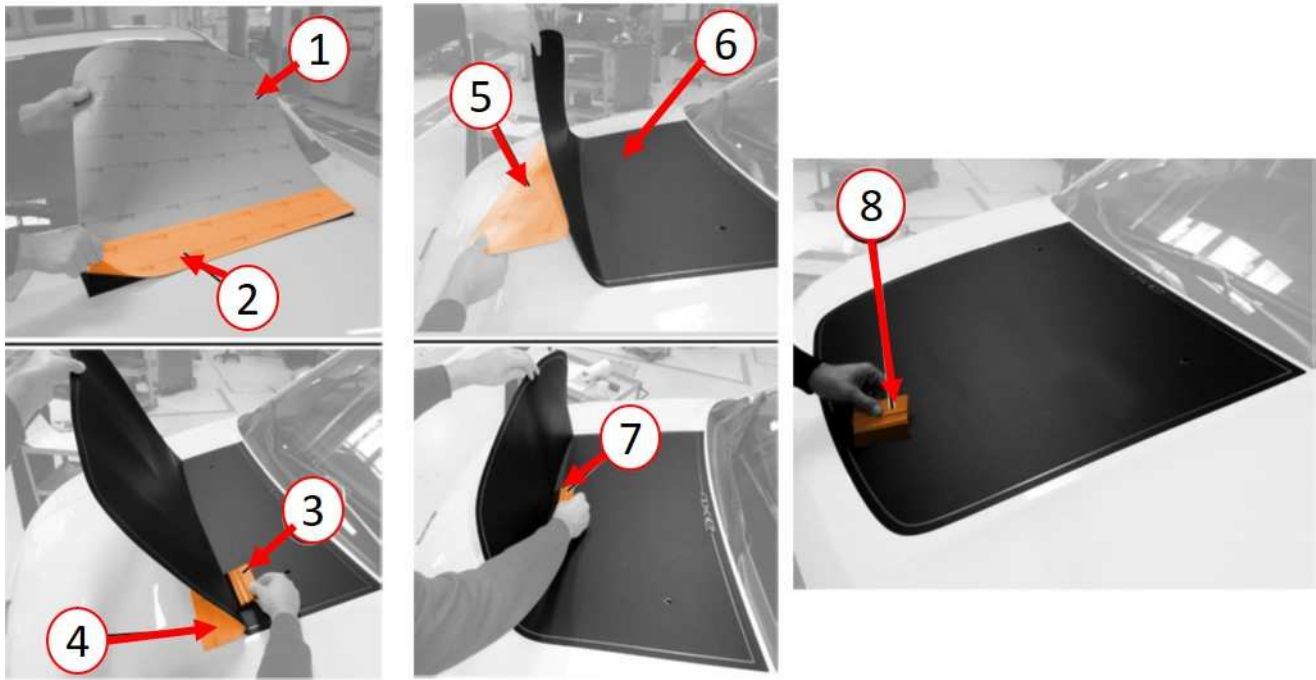

Fig. 3
10. Partially remove the protective covering from the back of the decal and position onto the hood (Fig. 3) .
11. Press decal firmly to hood and wet out with body squeegee (Fig. 3) .
12. Carefully remove the remaining decal protective covering as you install the decal to the hood (Fig. 3) .